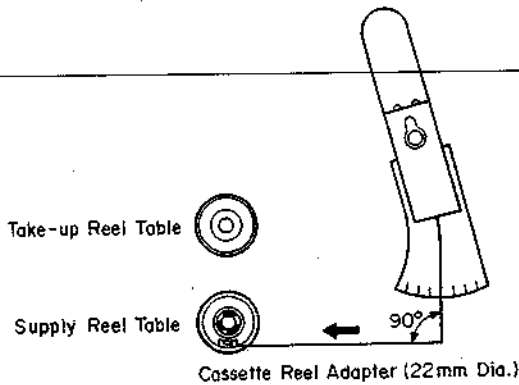

Fig. 18 Rewind Torque Measurement
1. Repeat the above procedure, but use the Supply Reel Table and the REW mode for measuring the rewind torque. (See Fig. 18)